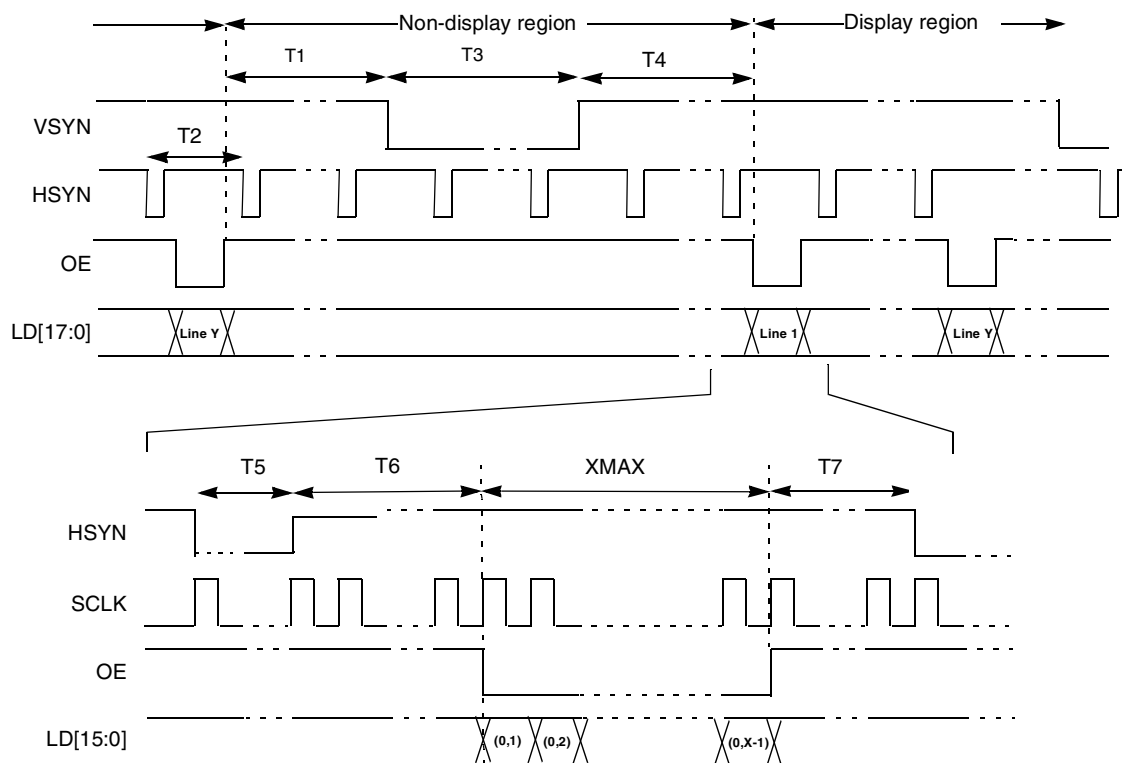

Figure 12. 4/8/12/16/18 Bit/Pixel TFT Color Mode Panel Timing
- VSYN, HSYN and OE can be programmed as active high or active low. In Figure 12, all 3 signals are active low.
- SCLK can be programmed to be deactivated during the VSYN pulse or the OE deasserted period. In Figure 12, SCLK is always active.